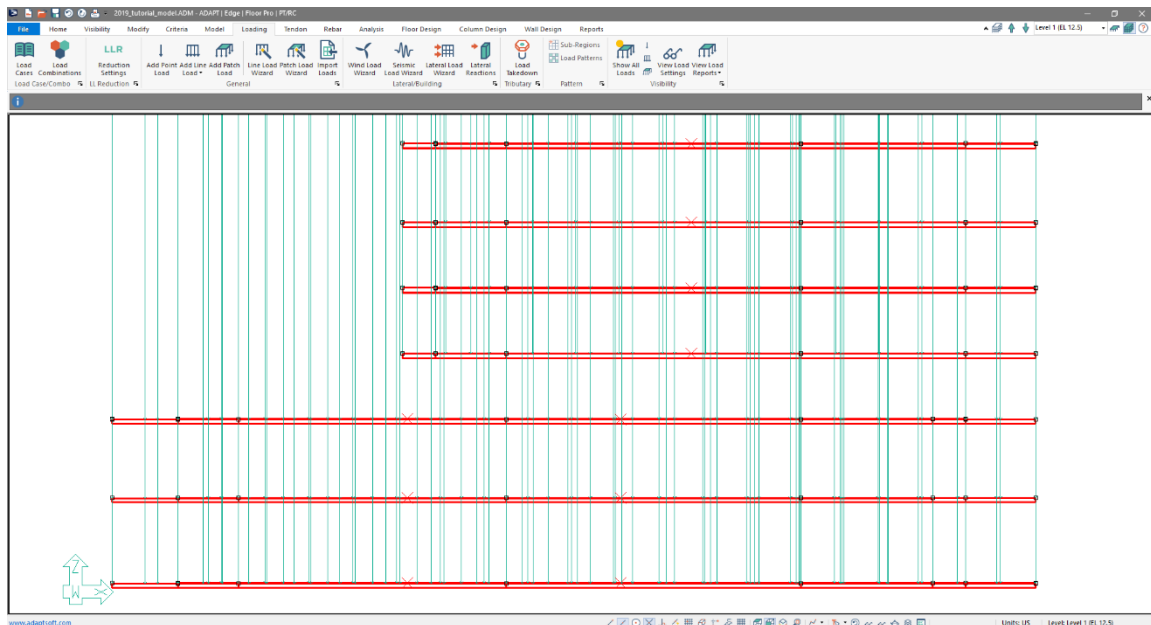

Figure 7-5
- The user will now see green lines representing the projection of the load as shown in **FIGURE 7-5**. We have applied a 25psf area load to each of the structure’s slabs.